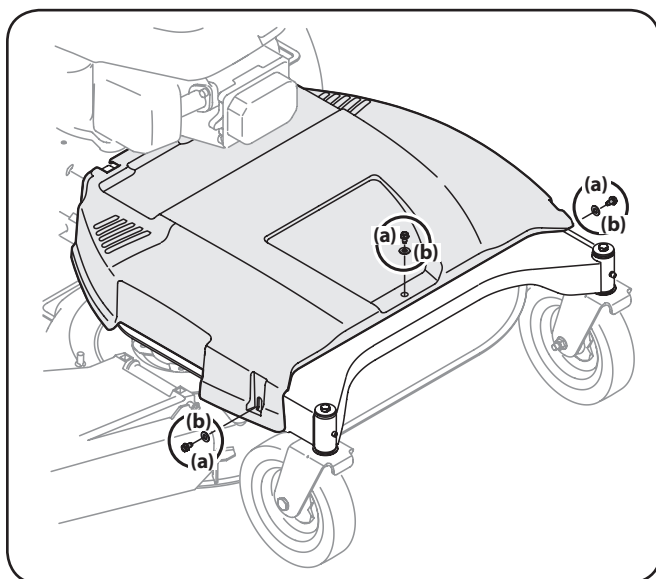

Figure 7-1
1. Remove the belt cover by removing the three screws (a) and washers (b) which secure it to the frame. See Figure 7-1.
2. Remove the belt cover as instructed in Step 1 of Cutting Deck Removal on page 22. See Figure 7-1.